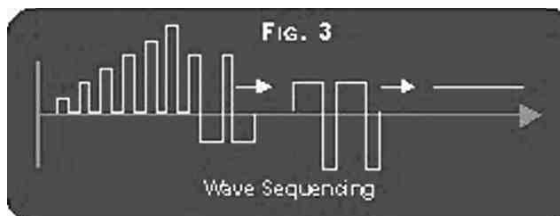

Fig. 3—Wave sequencing or multiple waveforms.
3. Wave Sequencing (Multiple waveforms) (Fig. 3)